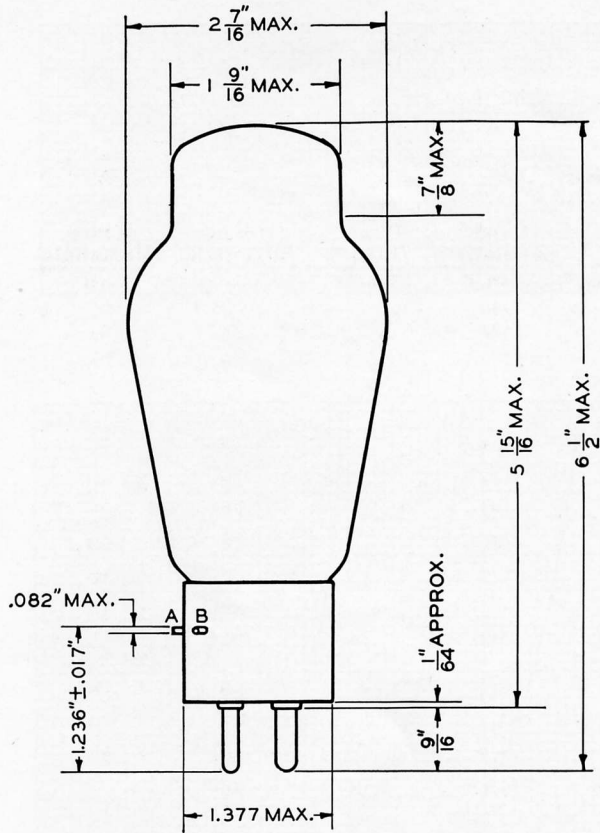

FIG. 1
**Dimensions—**Dimensions, outline diagrams of the tubes and bases, and the arrangement of electrode connections to the base terminals are shown in Figures 1 and 2.